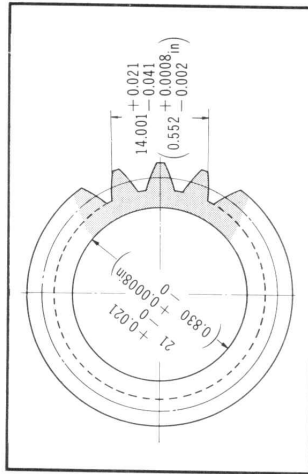

Figure 3-68. Primary drive gear
- (2) Primary drive gear (Fig. 3-68) [ ] for C50, C50M, S50